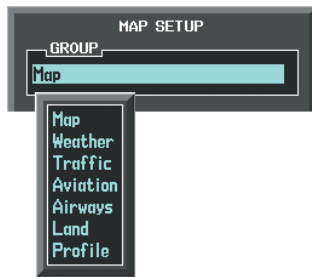

Figure 6-168 Navigation Map Page Setup Menu
- 4) Turn the small **FMS** Knob to select the 'Profile' Group and press the **ENT** Key (Figure 6-168).